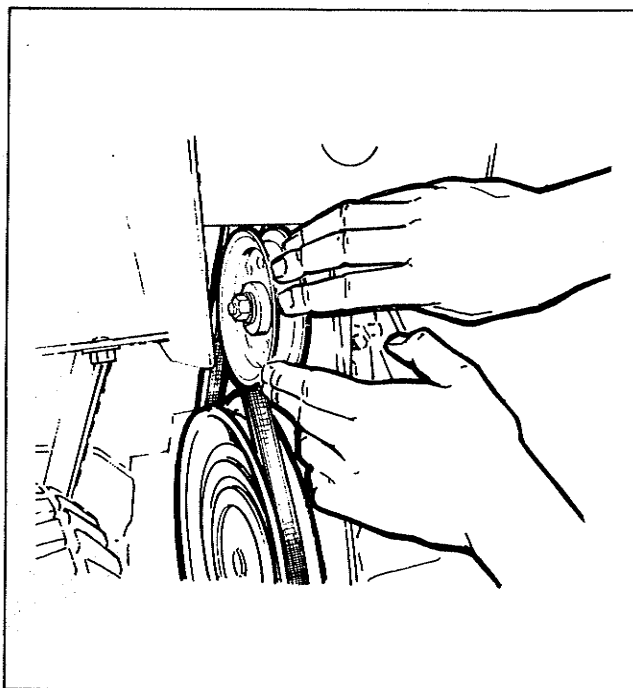
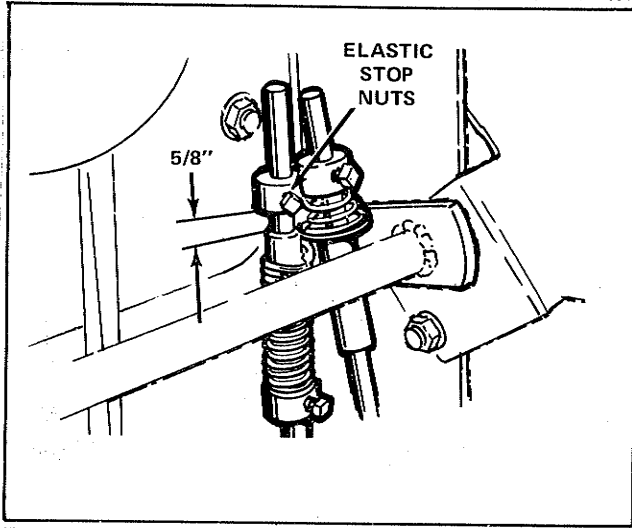

Figure 12
Figure 13
3. With the foot pedal released (up so the clutch idler pulley is pressed firmly against the belt (Figure 12), the distance between the clutch rod, elastic stop nut and the end of the rod guide should be five-eighths ($5/8$) inch as shown in Figure 13.